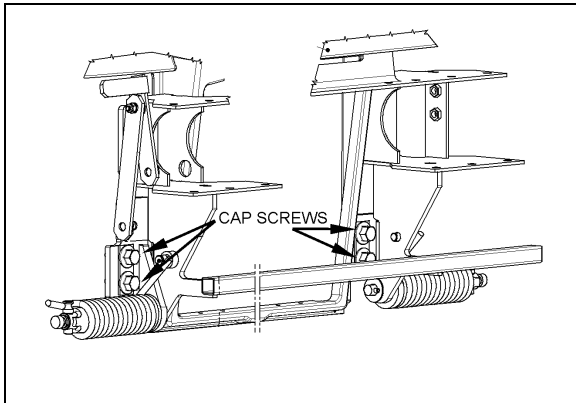

FIGURE 19: FRONT BUMPER ASSEMBLY
2. Remove 4 cap screws holding bumper to vehicle and remove bumper (Figure 19).